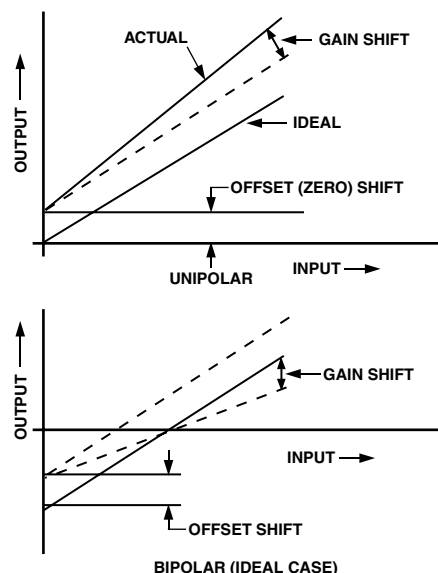

Figure 5. Unipolar and Bipolar Drifts
Temperature error analysis in the unipolar mode is straightforward: there is an offset drift and a gain drift. The offset drift (which comes from leakage currents and drift in the output amplifier (OA)) causes a linear shift in the transfer curve as shown in Figure 5. The gain drift causes a change in the slope of the curve and results from reference drift, DAC drift, and drift in R_{GAIN} relative to the DAC resistors.
Note that if the DAC and application resistors track perfectly, the bipolar offset drift will be zero even if the reference drifts. A change in the reference voltage, which causes a shift in the bipolar offset, will also cause an equivalent change in I_{REF} and thus I_{DAC} , so that I_{DAC} will always be exactly balanced by I_{BP} with the MSB turned on. This effect is shown in Figure 5. The net effect of the reference drift then is simply to cause a rotation in the transfer around bipolar zero. However, consideration of second order effects (which are often overlooked) reveals the errors in the bipolar mode. The unipolar offset drifts previously discussed will have the same effect on the bipolar offset. A mismatch of R_{BP} to the DAC resistors is usually the largest component of bipolar drift, but in the ADDAC80 this error is held to 10 ppm/°C max. Gain drift in the DAC also contributes to bipolar offset drift, as well as full-scale drift, but again is held to 10 ppm/°C max.